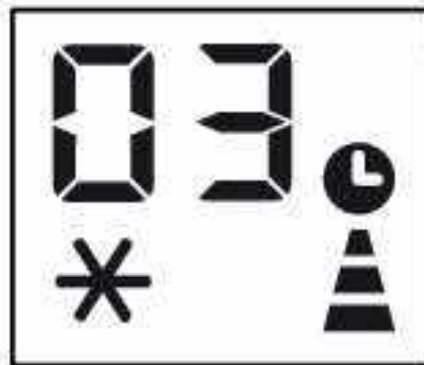

Fig 6
- Press several times until the corresponding time is displayed. Wait about 5 seconds, the timer will be active. Then only the  symbol will displayed on screen. (Fig 6)